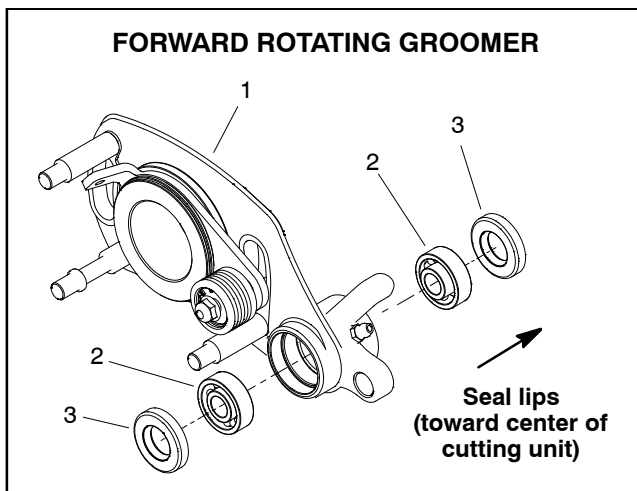

Figure 20
5. Remove grooming reel seals and bearings from RH drive plate and LH support plate assemblies (Figs. 20, 21 and 22). Discard all removed seals and bearings.